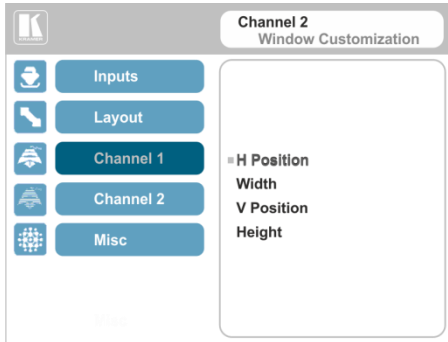

Figure 17: Window Customization
2. Select Window Customization (see Figure 17).